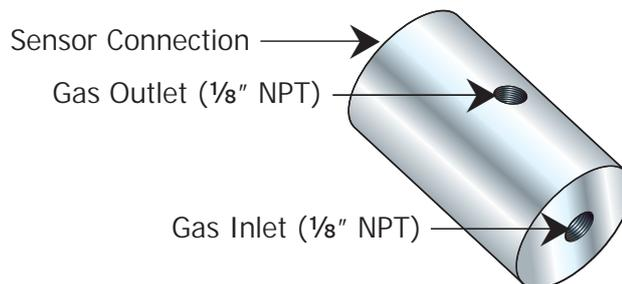

Figure 3 *Sample Block*
3. The gas connections for the remote sensor are either via a permanently installed sample port into which the remote sensor can be inserted or via a sensor block (see *Figure 3*) immediately attached to the sensor around which the sample circulates. Gas sample entry into the sensor block is via couplings that can be installed via 1/8" NPT female threads. A Dowty washer is provided to seal the connection between the sensor and the block.